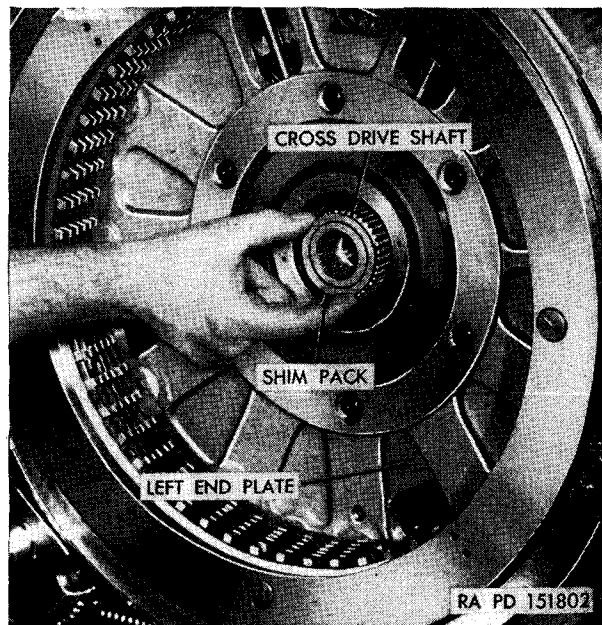

Figure 63. Removing or installing shim pack.
- (5) Remove the shim pack from the cross-drive shaft (fig. 63).